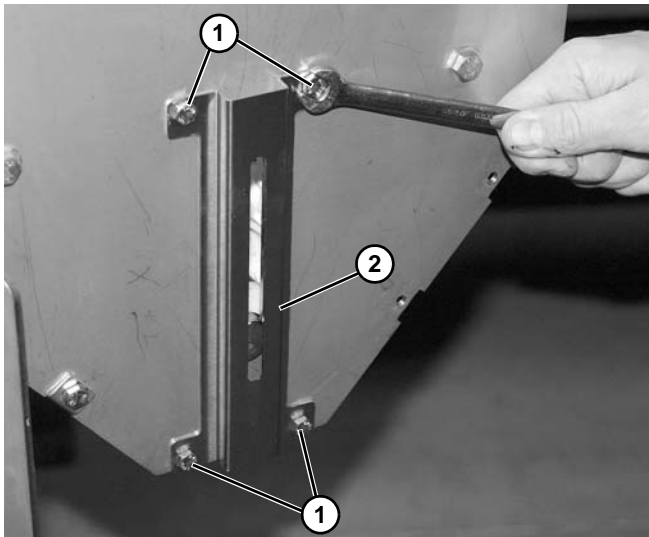

Figure 91
6. Remove four hex head screws (**Figure 91, item 1**), and remove guard (**Figure 91, item 2**). Repeat on opposite side.